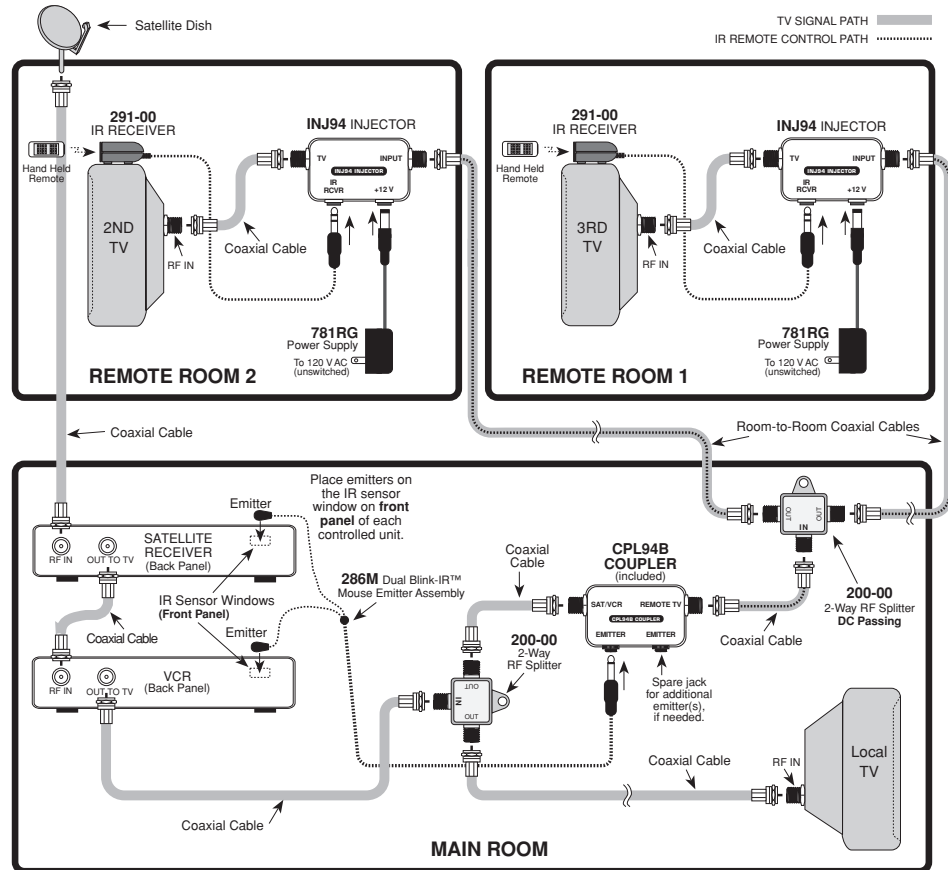

Fig. 3 A Typical 3-Room System
FIG. 3 illustrates a typical installation using two INJ94's and a CPL94B in a three room system.
2. When configuring multiple rooms, be sure the RF splitters used are DC passing types, such as Xantech Models 200-00 (2-way) and 202-00 (4-way). Refer to **Figs. 3 and 4**.